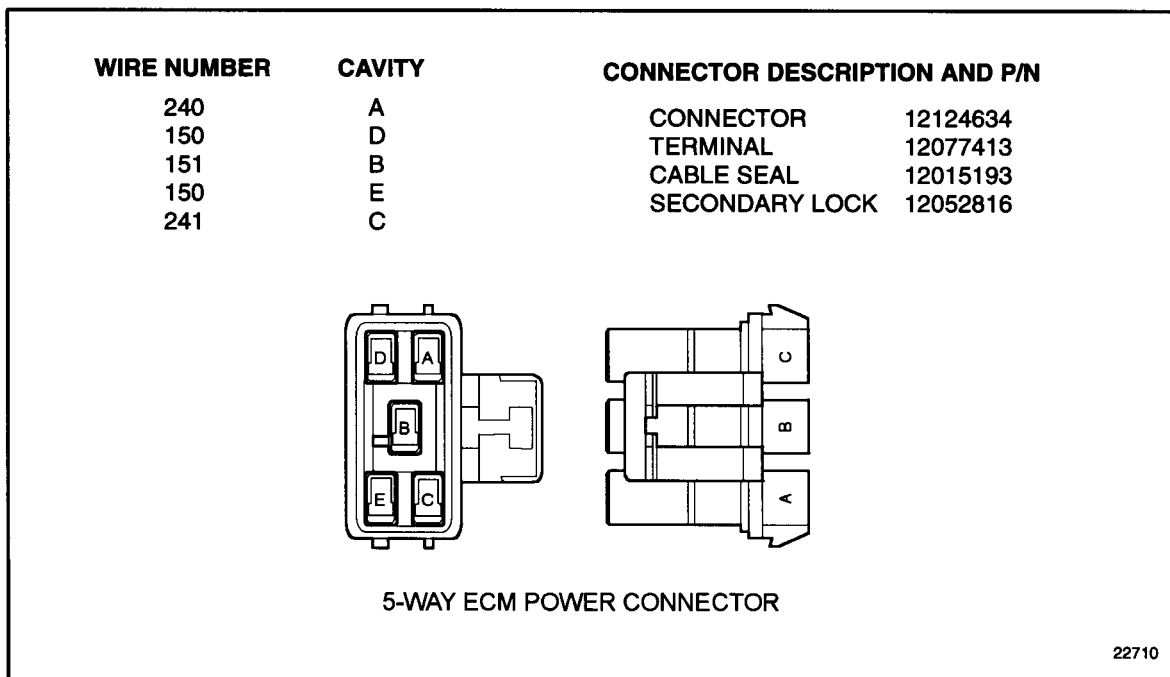

Figure 21-5 5-Way ECM Power Connector
3. Measure resistance between socket D2 on the vehicle harness connector and the 5-way power connector sockets A and C. See Figure 21-5.